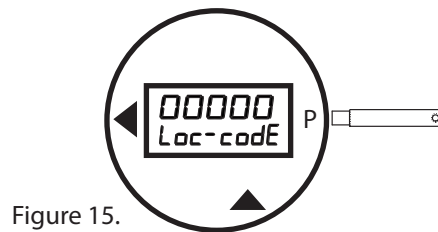

Figure 15.
- a. Hold the magnetic wand at the **P** on the right side of the register. After five seconds the register will display "Loc-code" (Figure 15). The last digit will flash.